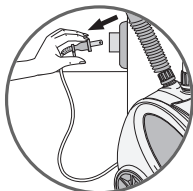

fig.11
- Ensure that the steamer is unplugged - fig.11. Remove the water tank from the base of the appliance by pulling the handle upwards - fig.12. Unscrew the tank cap and fill the tank - fig.13. The tank holds 1.8 liters (60 ounces).